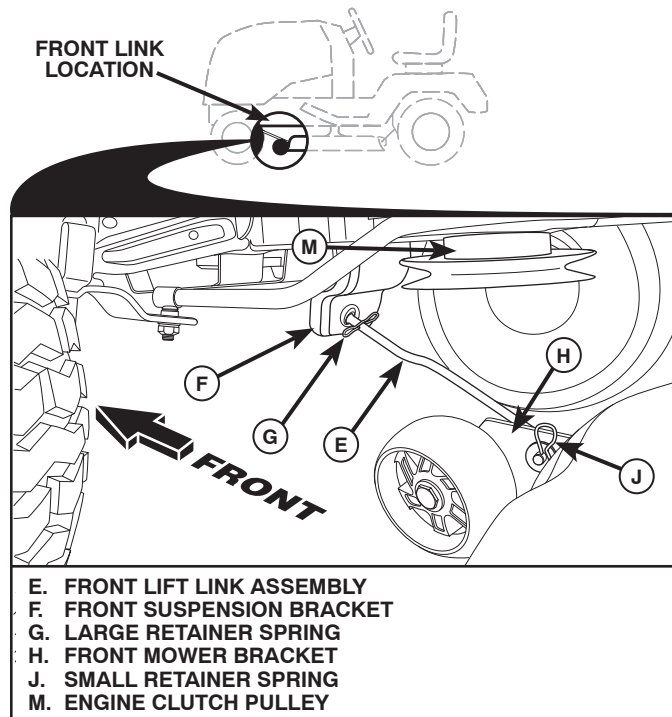

Fig. 14
8. ATTACH FRONT LINK (E) (See Fig. 14)
- From front of tractor, insert rod end of front link (E) through front hole in tractor front suspension bracket (F).